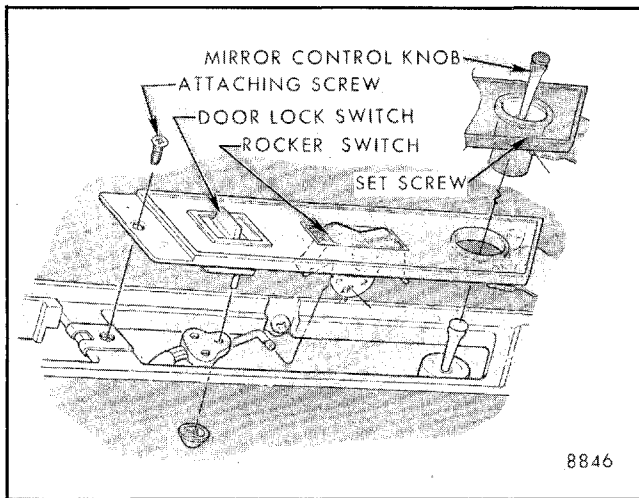
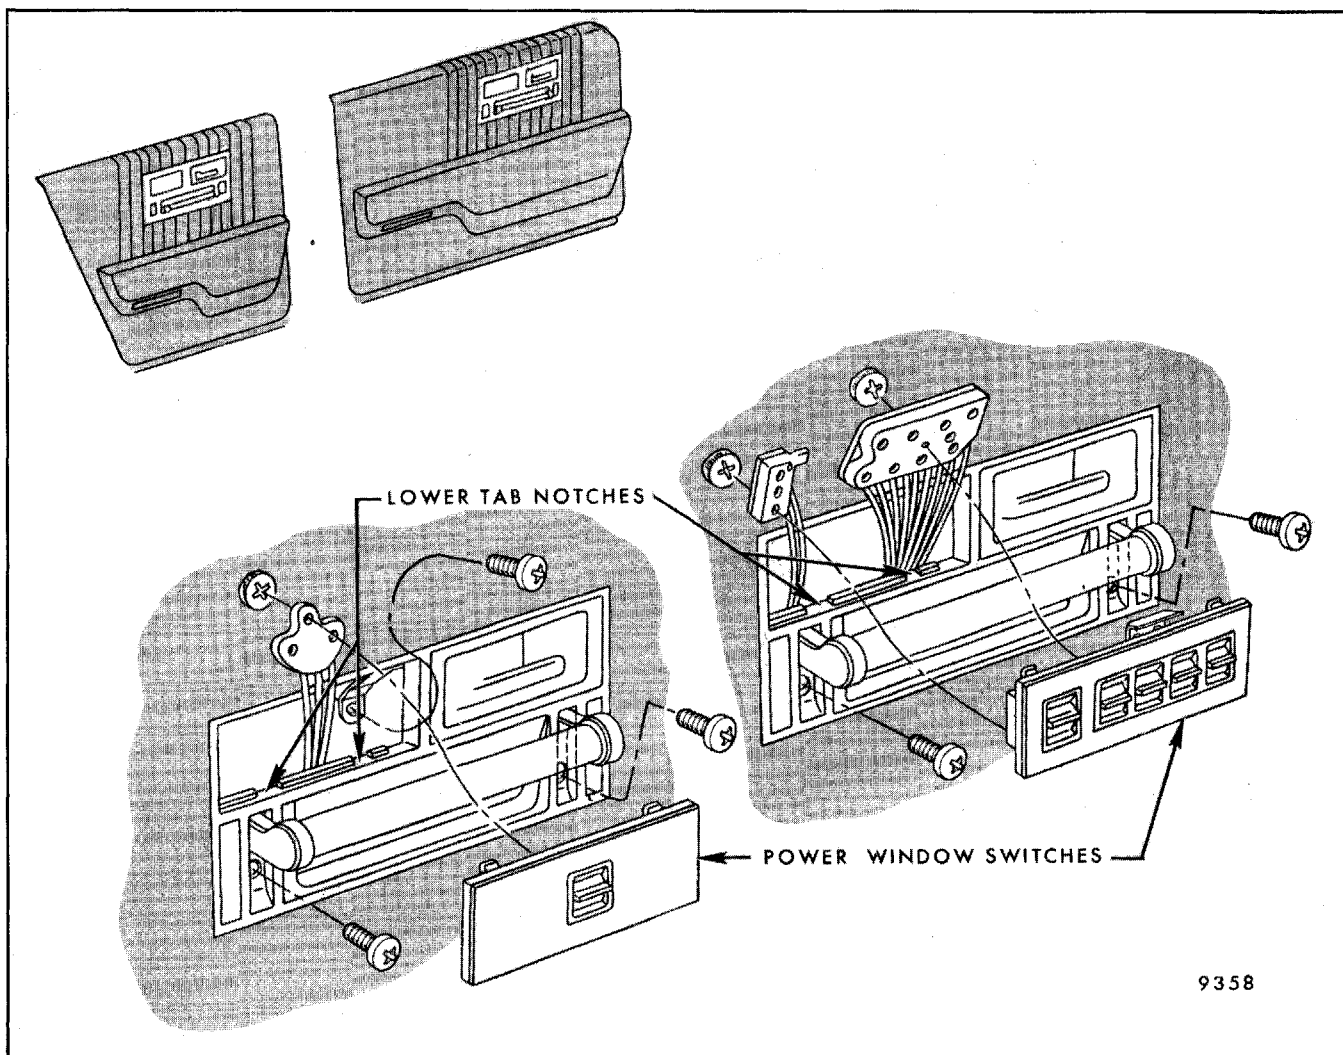

Fig. 5-13 - Door Armrest Cover and Remote Mirror Cable Attachment - K Style
Fig. 5-19 - Power Window Control Switch Plate - K Style
5. On the K style, remove power window control (Fig. 5-19) described immediately after this procedure, and disconnect locking rod from door lock rocker switch retaining clip (Fig. 5-13).
1. Insert a thin narrow bladed screwdriver through the lower tab notch against the spring steel clip blade (Fig. 5-19). Engage blade of clip with screwdriver, then using screwdriver as a lever, lift spring clip from engagement with edge of pull handle escutcheon. Hold loose edge of plate and repeat operation at adjacent lower clip blade to complete cover plate removal.
2. Disconnect electric window terminal and blackout switch terminal (Fig. 5-19).